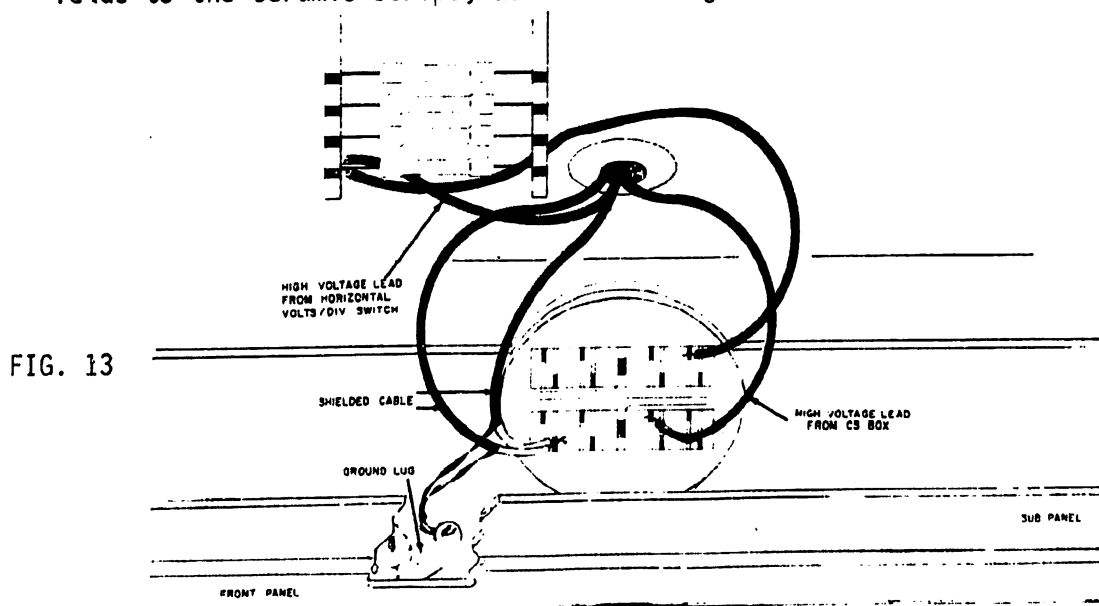

FIG. 13
- () 70. Wire the Transistor Selector switch and connect the two high voltage leads to the ceramic strips, as shown in Fig. 13.